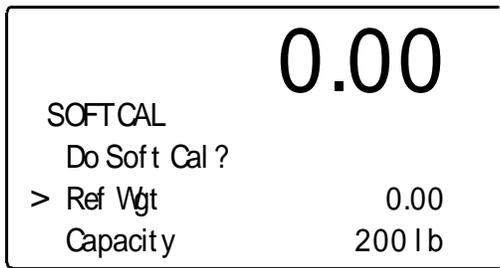

FIG. 2-20 SOFT CALIBRATION MENU/ENTERING REFERENCE WEIGHT
- Step 2. Press the Enter button. The Soft Cal Sub-Menu appears with the cursor in front of “Ref Wgt”. (See Fig. 2-20)